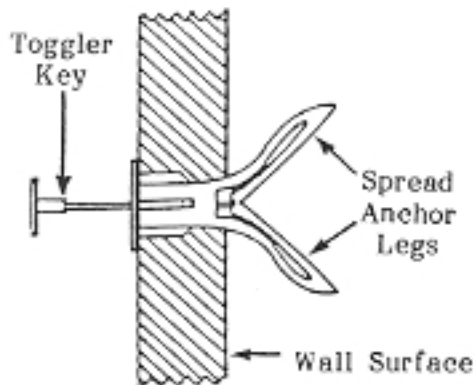

FIGURE 4
01.22 Insert a toggler key into the small hole in the neck of each fastener, as shown in Figure 4. This should cause the anchor legs to "pop" open. Remove the toggler key.